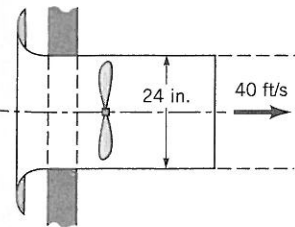

Figure P5.128
**5.128** If a  $\frac{3}{4}$ -hp motor is required by a ventilating fan to produce a 24-in. stream of air having a velocity of 40 ft/s as shown in Fig. P5.128, estimate (a) the efficiency of the fan and (b) the thrust of the supporting member on the conduit enclosing the fan.
■ Figure P5.128
**128** If a  $\frac{3}{4}$ -hp motor is required by a ventilating fan to produce a 4-in. stream of air having a velocity of 40 ft/s as shown in Fig. P5.128, estimate (a) the efficiency of the fan and (b) the thrust of the supporting member on the conduit enclosing the fan.